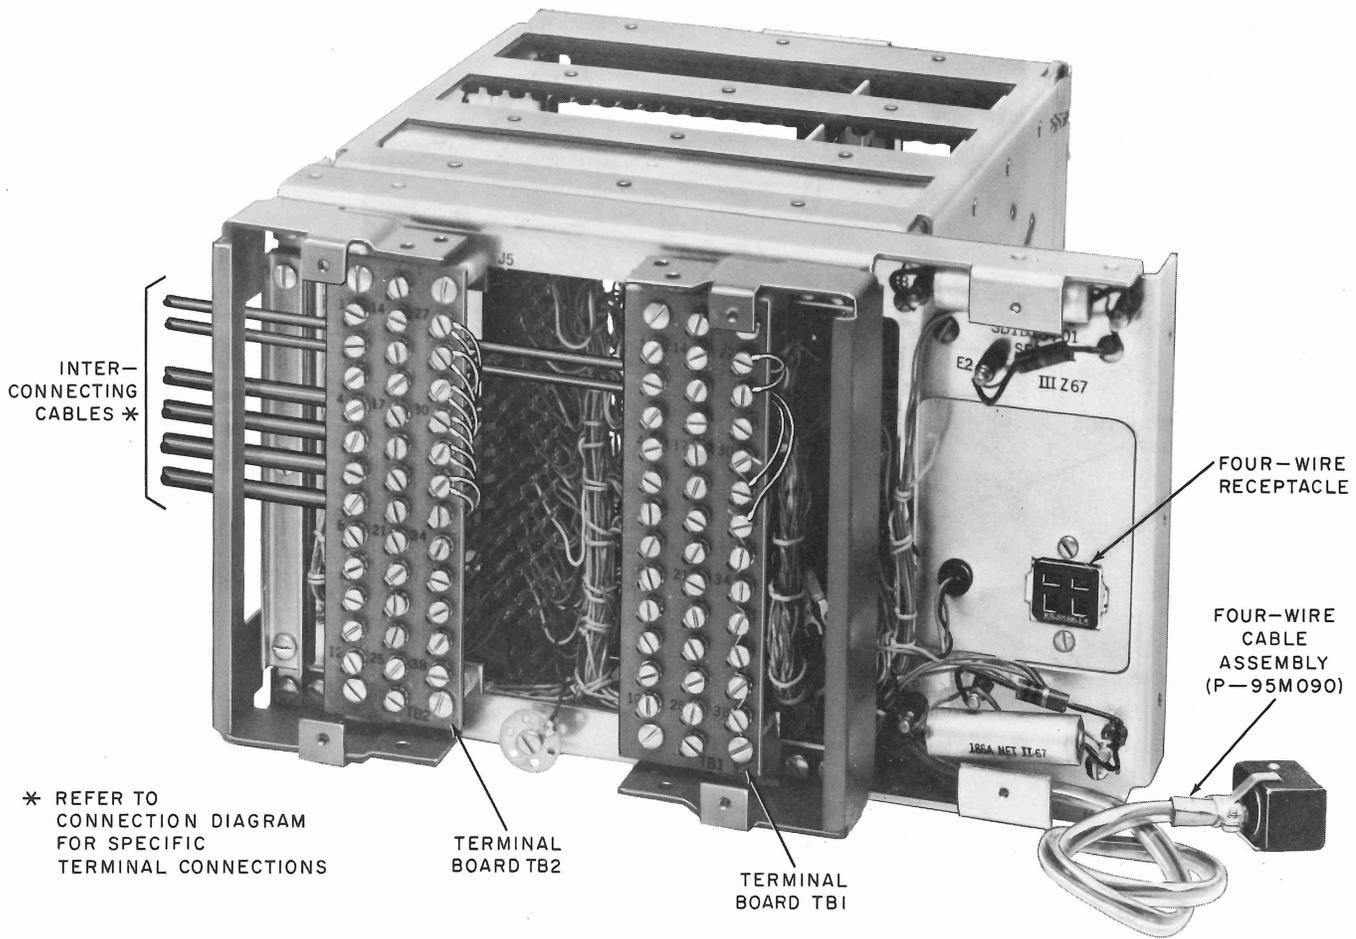

Fig. 3—Data Auxiliary Set 824B1, Rear View (Covers Removed)
**3.08** All connections to DAS 824B-type are made at the rear of the unit (Fig. 3 and 4).